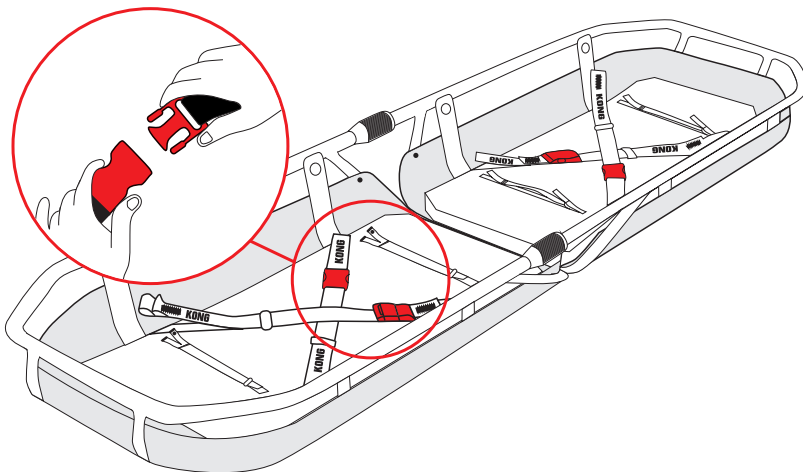

Fig.9
- unhook the buckles and open the securing straps (fig. 9),